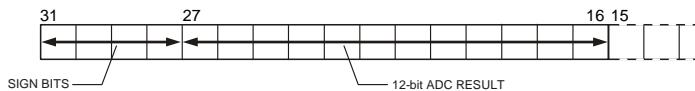

Figure 10: ADC Result Format
The top 4 bits are the sign bits and the 12-bit result is placed from bit 16 to 27 as shown in Figure 10. Again, it should be noted that in fully differential mode, the result is represented in two's complement format, and in pseudo differential and single-ended mode, the result is represented in straight binary format.
**ADCDAT:** ADC Data Result Register, hold the 12-bit ADC result as shown Figure 10